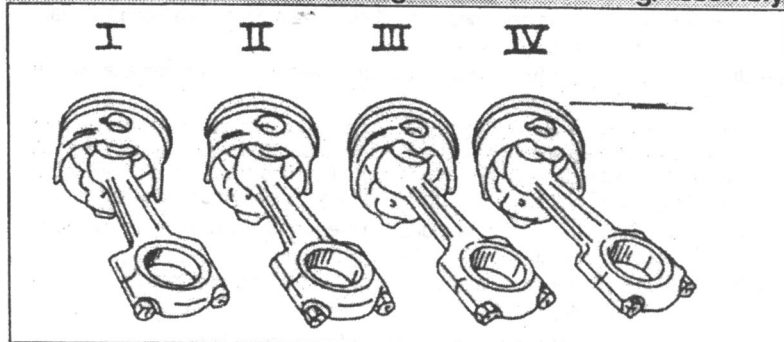

Fig. 1.23. — Provisionally attach the big end bearing caps and bearing shells to connecting rods and pistons and lay them out in the manner shown.
- Dismantle the pistons and connecting rods as described later on. We recommend to attach the big end bearing caps and bearing shells to the connecting rods (the correct ones) until you dismantle the assemblies. The pistons and connecting rod assemblies can then be stored as shown in Fig. 1.23 on a clean sheet of paper or cloth.